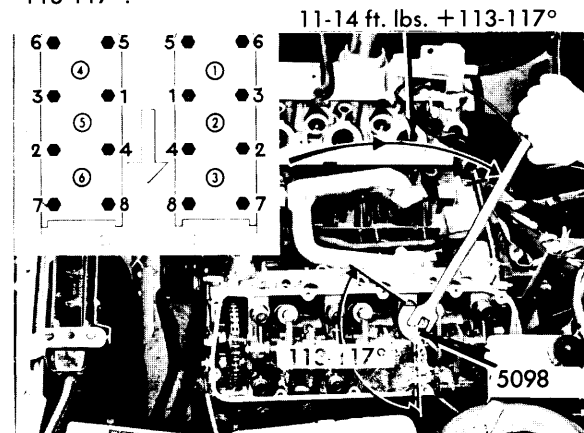

Fig. 3 Final Torquing of Cylinder Head Bolts After Running and Cooling Engine
5. After engine is assembled, run at operating temperature for 15 minutes and cool for 30 minutes. Back off head bolts once more and torque to 11-14 ft. lbs. Then use protractor to torque bolts in sequence shown (Fig. 3) to 113-117°.